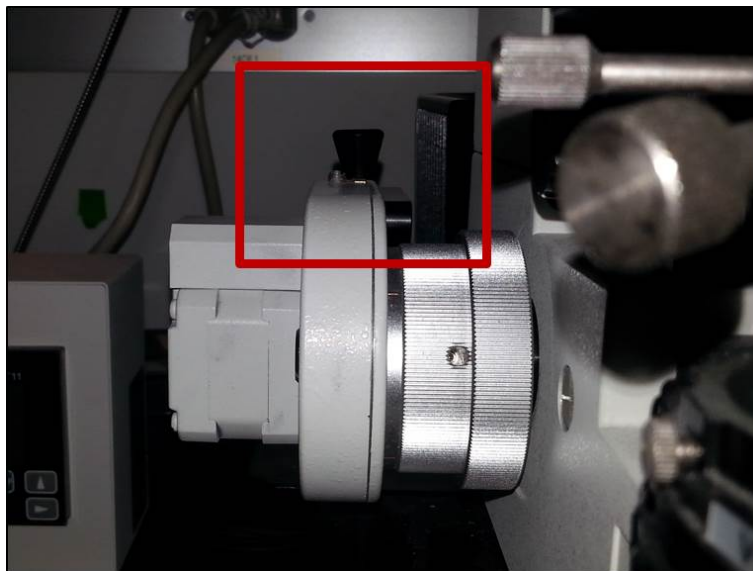

Figure 4: Push the knob down to disengage, up to engage the z-stepper.
1. Disengage z-stepper motor by pushing switch down (Figure 4).